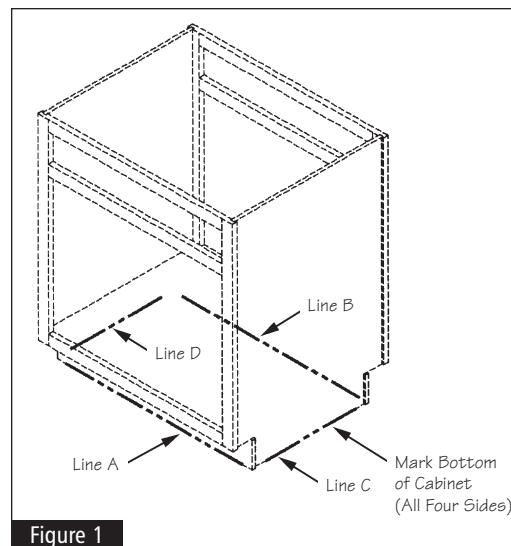

Figure 1
- 1** Position the peninsula base cabinet at the desired location. Using a pencil, mark lines around the bottom of all four sides of the cabinet onto the floor. See Figure 1.